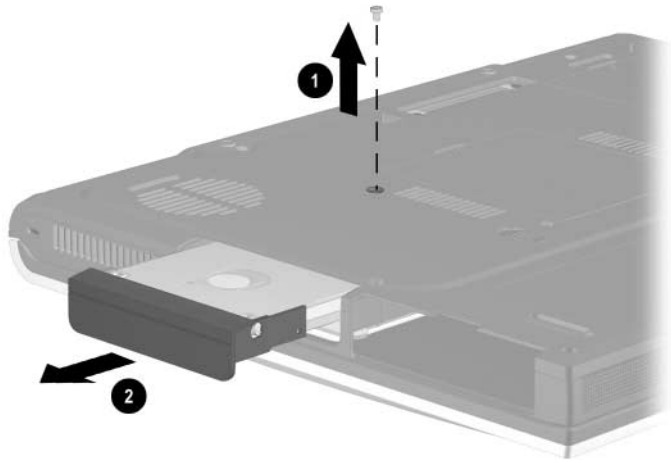

Figure 5-5. Removing the Hard Drive
- b. Remove the PM3.0 \times 4.0 hard drive retention screw ❶ (Figure 5-5).
- c. Slide the hard drive forward ❷ to unseat the hard drive connector from the system board.